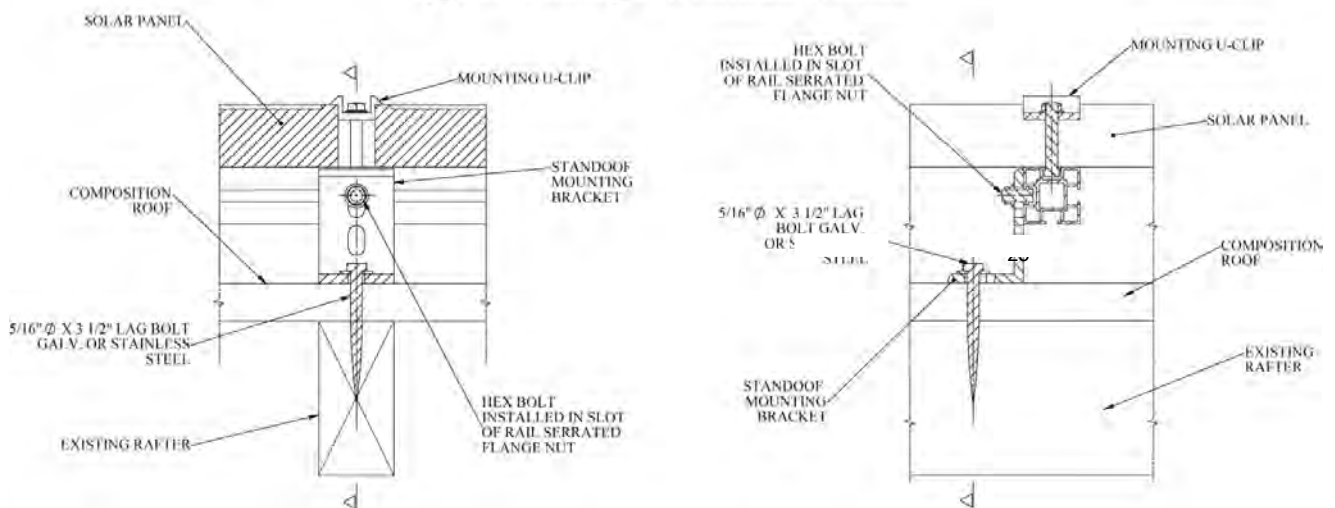

Figure 1 - Basic Mounting Structure
- ASP PV modules can be mounted by various methods, using the four (or six) mounting holes located on the module frame or may also be mounted using pressure clips on the channels with the mounting holes located on the module frame. (please refer to Figure 1)
- Put the ASP PV modules on the channels, using the bolts, nut and washers then, tighten to 9.5N.m to 10N.m., or 7.00 to 7.50 foot pounds, on the bolt and nut with proper tools as described in Figure.1.